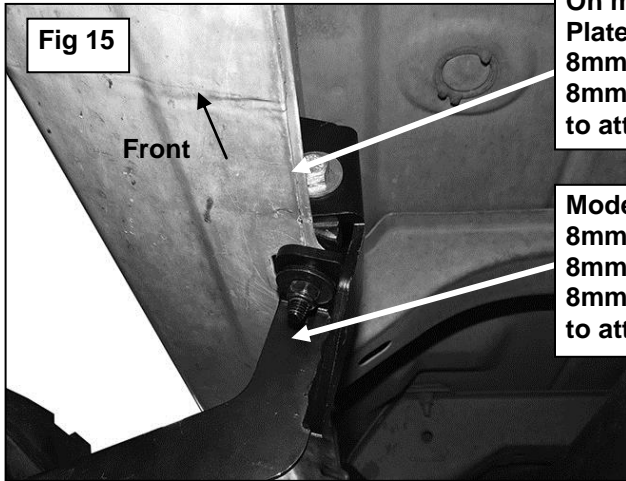

Fig 15
12. Line up the side tab on the Lower Bracket with the threaded hole in the side of the Upper Bracket. Attach the Lower Bracket to the Upper Bracket with (1) 8mm x 25mm Hex Bolt, (1) 8mm Lock Washer and (1) 8mm Flat Washer, (**Figure 15**). Leave loose at this time. Repeat **Steps 3—4** for the passenger side center Bracket installations. And repeat **Steps 5&6** to install the passenger rear bracket (**Figure 17**),